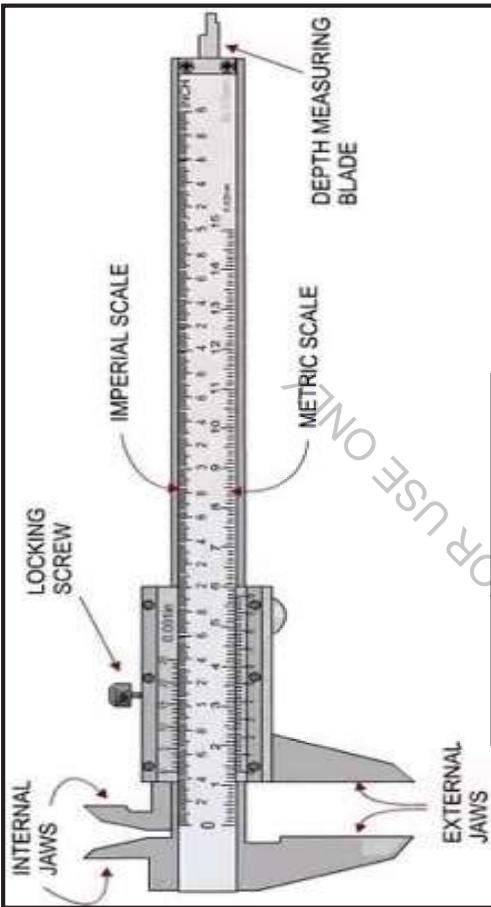

Figure 2.2 Vernier Calipers
2.2.1.2 Vernier Calipers: Vernier Calipers (Figure 2.2) can more precisely measure the external dimensions, internal dimensions, and depths. It has two scale named as main scale and a vernier scale for measurement with their relative movement. The least count of a vernier scale is the measurement difference of the one division on the main scale and one division on the vernier.